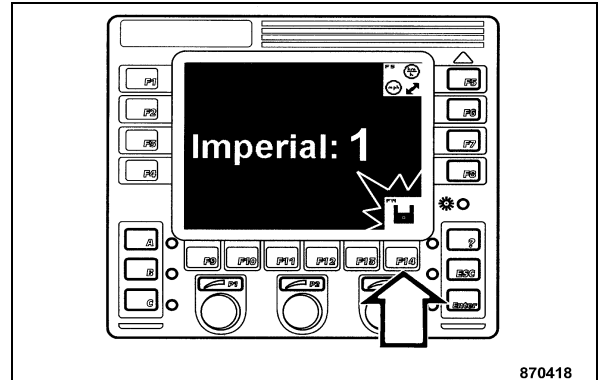

Fig. 82
- Press "F14" (Fig. 82) to save the selection. The symbol "Save" lights green for a moment to confirm.